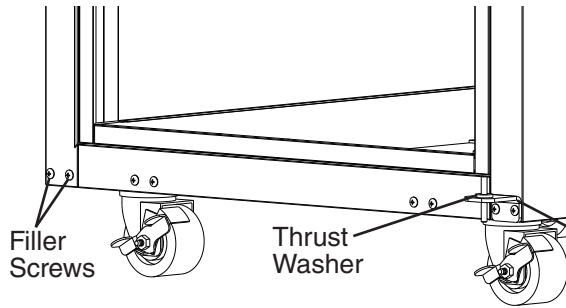

Fig. 11
- 4) Remove the lower hinge bracket and thrust washer. See Fig. 11. Retain thrust washer for opposite side lower hinge bracket installation. Remove the filler screws from the opposite side lower hinge bracket holes and mount them into the holes of the removed lower hinge bracket. **NOTICE! Be sure to reuse the bracket screws for mounting the bracket as the bracket screws are 5×12 and filler screws are 5×10.**